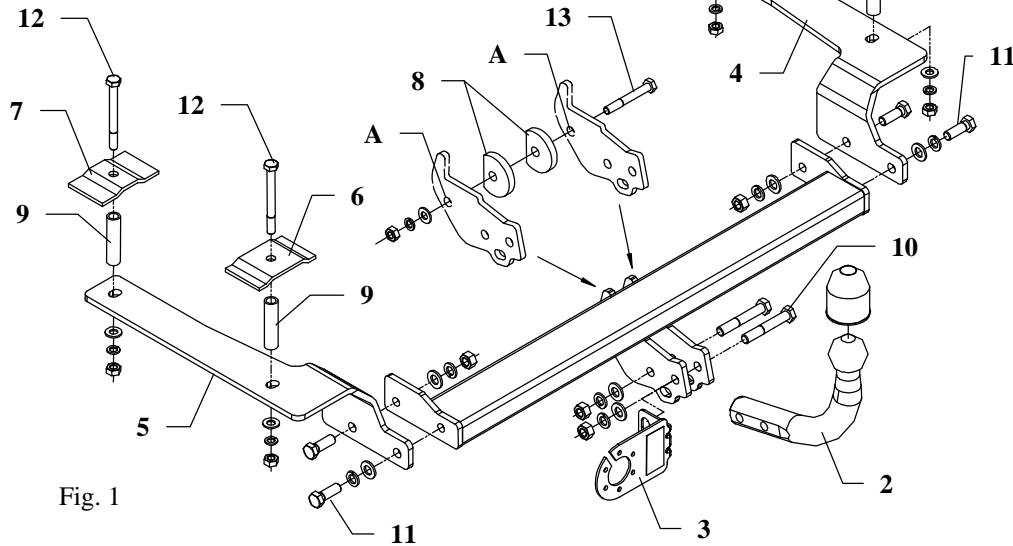

Fig. 1
4. To prepared holes put distance sleeves  $\phi 17$ mm, L=70mm (pos. 9).
5. On holes put fish-plates (pos. 6 and 7) as shown on figure 1, next put bolts M10x100mm (pos. 12).
6. Underneath the car, to the chassis frame put side brackets (pos. 4 and 5) and fix it loosely.
7. Between installed brackets put main bar of the towbar (pos. 1) and fix it loosely using bolts M12x35mm (pos. 11).
8. Through holes pos. A fix with original towing eye using cut washers  $\phi 58 \times \phi 12 \times 10$ mm (pos. 8) and bolt M10x75mm (pos. 13).
11. Fix tow-ball (pos. 2) and socket plate (pos. 3) by bolts M12x75mm (pos. 10) from accessories.